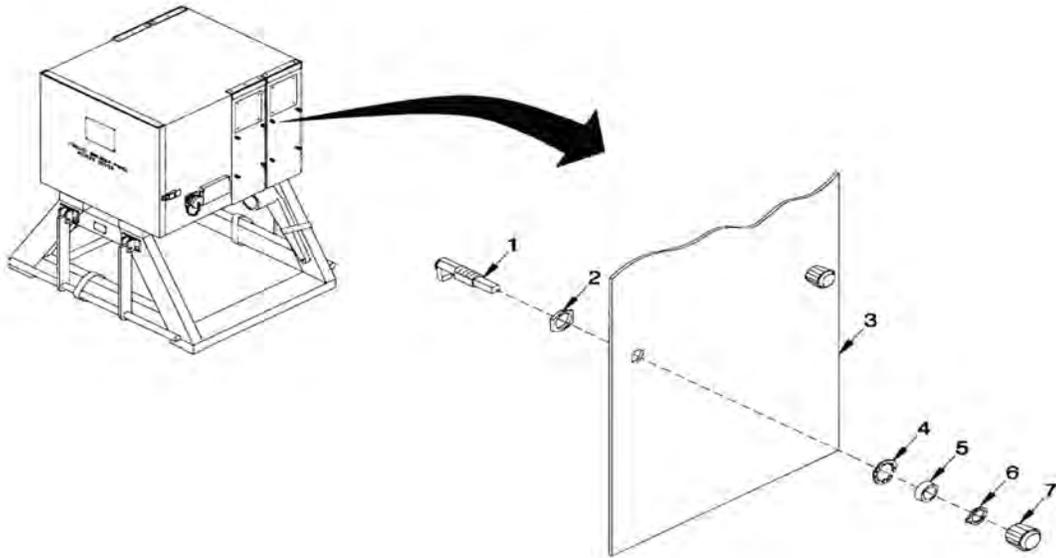

Figure 1. Side Access Cover Pawl Fastener.
2. Remove fastener washer (Figure 1, Item 6). Remove fastener locking collar (Figure 1, Item 5) by turning counterclockwise.
3. On inside of access cover (Figure 1, Item 4), remove fastener body (Figure 1, Item 1) by tapping until free.
4. Remove lock washer (Figure 1, Item 3). Remove nut (Figure 1, Item 2) by turning counterclockwise.
5. Place nut (Figure 1, Item 2) and lock washer (Figure 1, Item 3) on fastener body (Figure 1, Item 1).
6. Position fastener body (Figure 1, Item 1) on inside of access cover (Figure 1, Item 4) and slide through hole.
7. Place locking collar (Figure 1, Item 5) and fastener washer (Figure 1, Item 6) on fastener body (Figure 1, Item 1) and tighten nut (Figure 1, Item 2).
8. Position black plastic cap (Figure 1, Item 7) on body and press until seated.